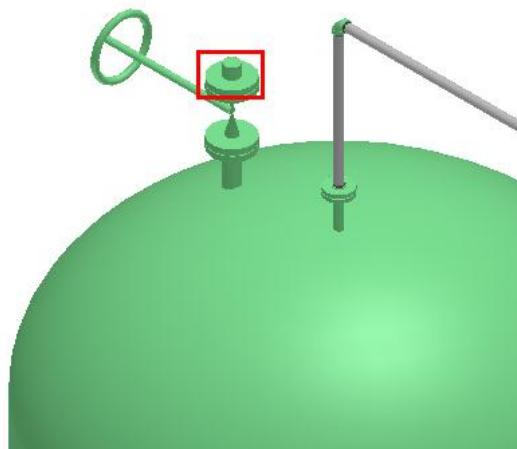

Figure 11. 12: Flange Placed on the Gate Valve
13. To let the fluid come out of the valve, place a pipe on the gate valve. Route a **1 ft** pipe from the flange placed above by using the **Route Pipe** command as shown in Figure 11. 13.